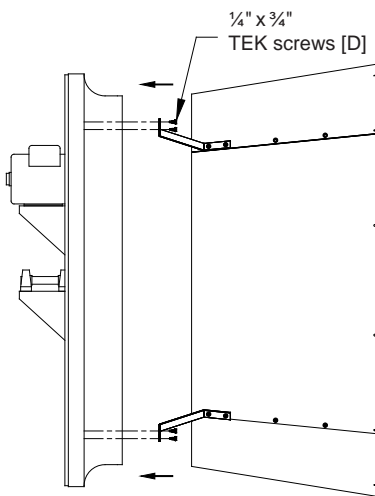

Figure 3
Install cone on fan. Two people are usually required to do this. Cone should slide over fan outlet approximately 1 1/2". After cone is on, secure it with (2) screws [D] through each support bracket. See Figure 3.